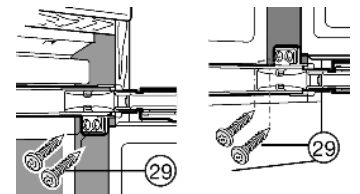

Fig. 22
- On both doors fit Spax screws *Fig. 22 (29)* through the plates of the upper and lower hinges.